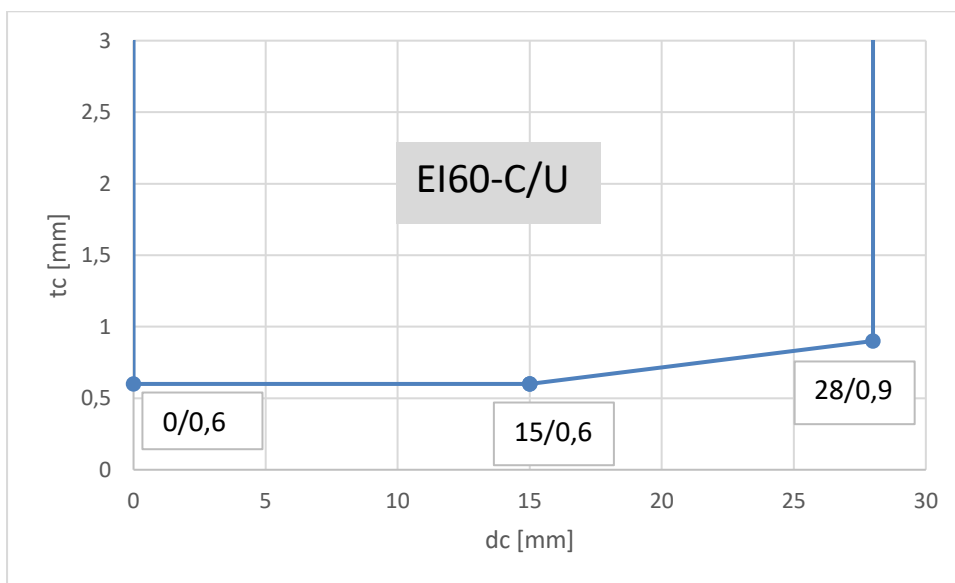

Figure 61: Classified pipe range for FEF- insulated metal pipes in zero distance to each other
Classification given in Figure 61 is valid for:
- Pipe diameter and minimum pipe wall thickness :see Figure 61